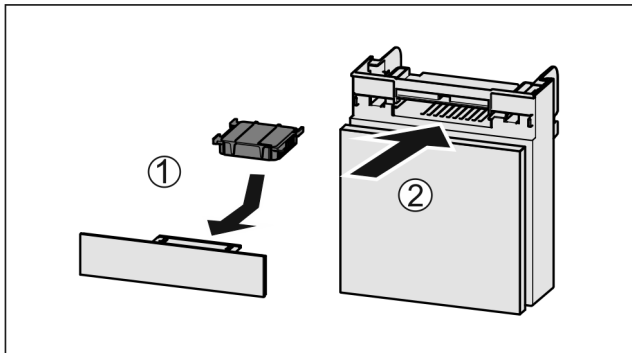

Fig. 103
- ▶ Insert the carbon filter as shown in the diagram Fig. 103 (1).
- ▶ Push the compartment in Fig. 103 (2).